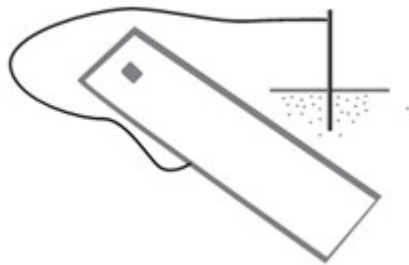
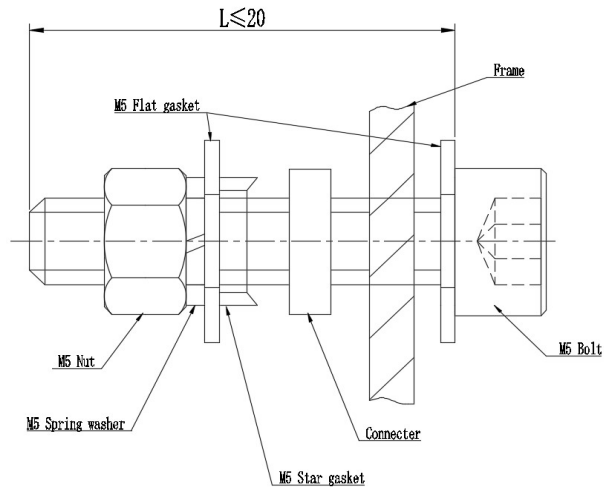

Figure 9 Module grounding circuit
Figure 10 Installation diagram of grounding bolt
4.1.3 The aluminum frame and support of the module must be grounded, as shown in Figure 9. Each module has a grounding hole and is marked on the frame (it is recommended that the series / parallel connection of each module must be grounded once). The installation method of grounding bolt is shown in FIG. 10. The grounding wire and frame can be reliably grounded by the prepared grounding hole. And the